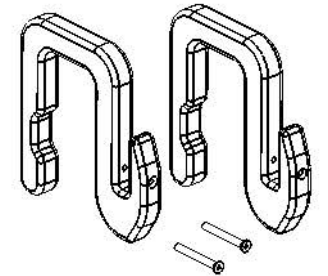

Figure 7
2. Attach outside hooks (B) to the outside set of cut slots in the main frame (Figure 7) ensuring proper screw alignment
4. Attach outside tabs (C) to the inside set of cut slots in the main frame (Figure 7) ensuring proper screw alignment